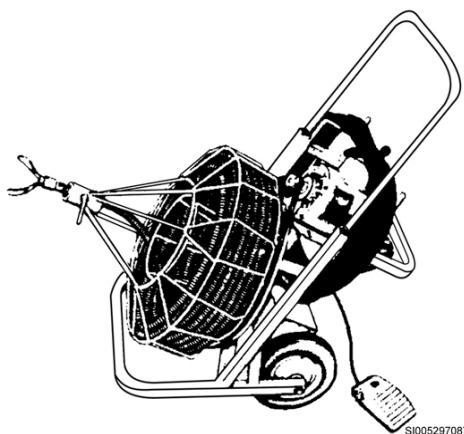

Figure 3-23. Power sewer auger for building sewer.
The electric sewer auger (fig. 3-23) is ideal for cleaning building sewers. This auger is equipped with an assortment of heads: (1) saw cutter, (2) corkscrew, (3) knife cutter, (4) drop head, and (5) pickup head. This machine is also equipped with a foot control that leaves both of the plumber's hands free to guide the auger. Again, the type of auger head you use for a particular job depends upon the obstruction to be removed.